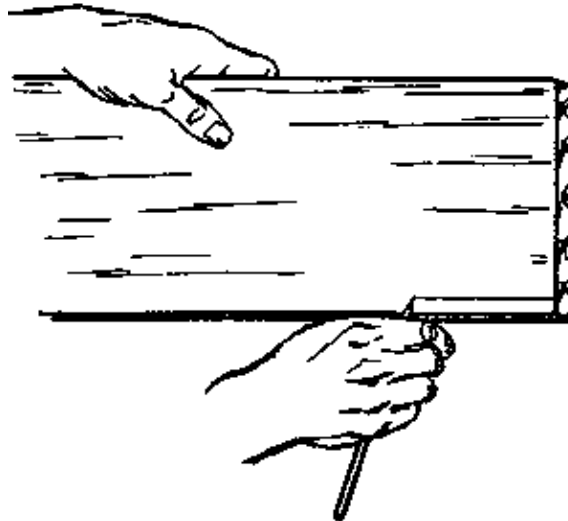

Fig. 1
– Grasp the pencil lightly in your closed fist with the point protruding the desired distance. For example, to make a line 1 cm from the edge of the timber, the point of the pencil should stick out exactly 1 cm from your fist. Now pull the pencil along the board keeping your thumbnail pressed firmly to the edge of the board (Fig. 1).